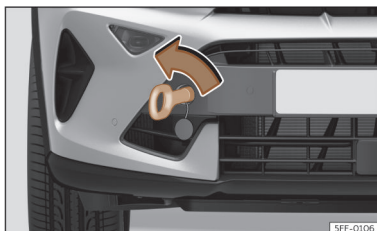

Fig. 209 Right side of the front bumper: towline anchorage screwed in.
- Screw the towing eye in the housing by turning it to the maximum **anticlockwise** >>> **Fig. 209**, >>> ⓘ. Use a suitable object that can completely and securely tighten the towing eye in its housing.